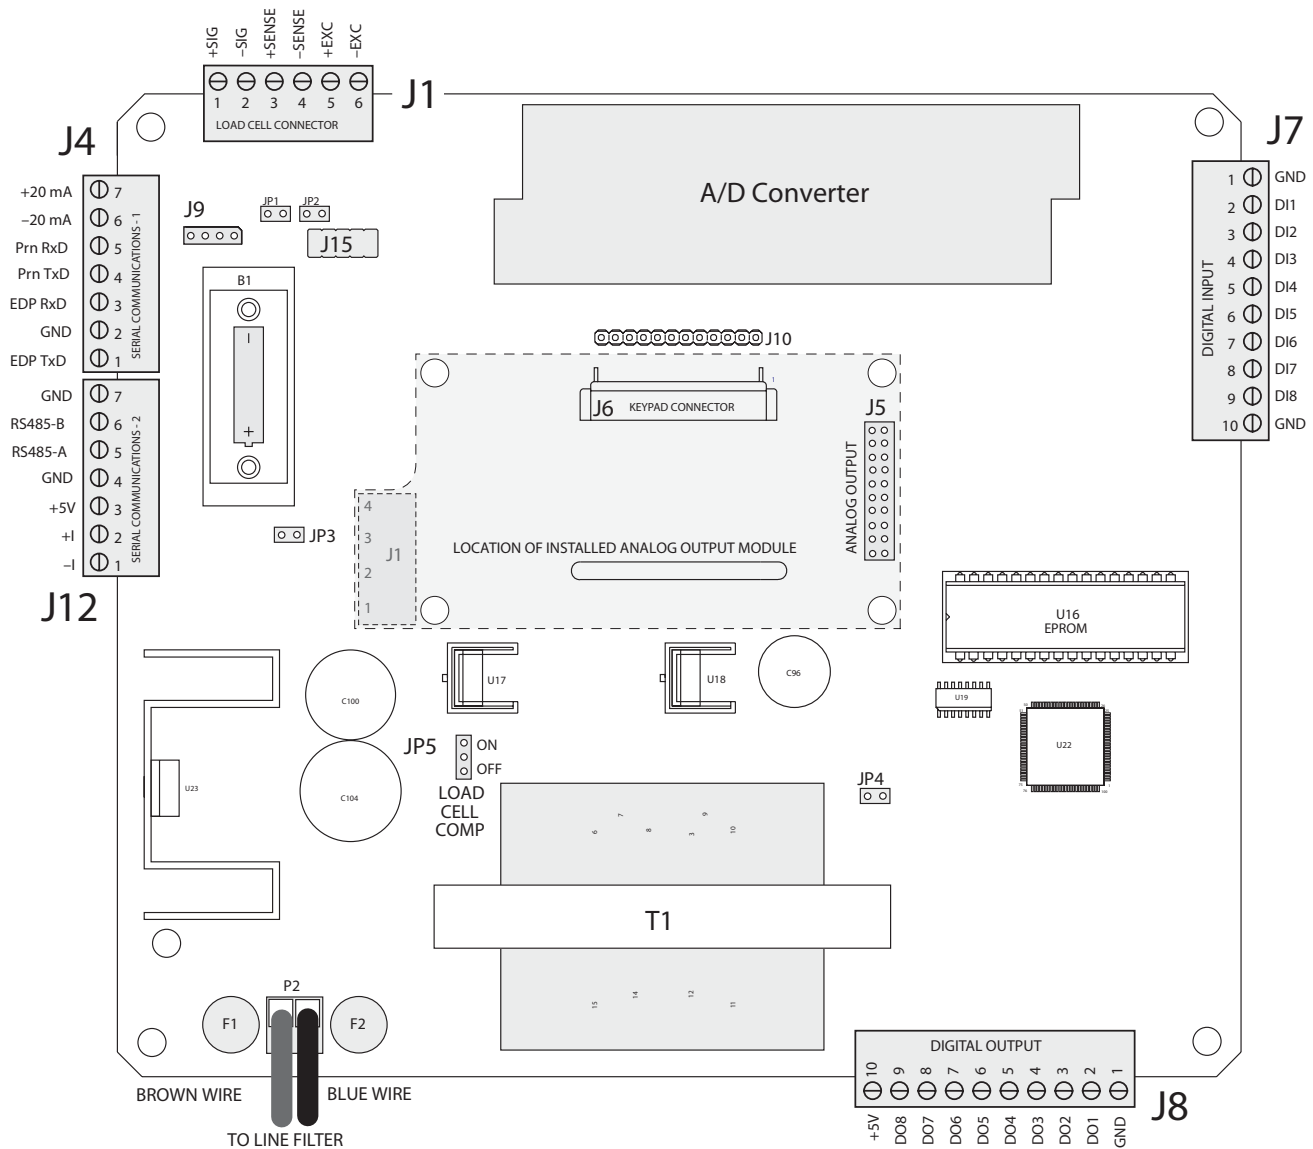

Figure 2-4. IQ plus 710 CPU and Power Supply Board, Version 2.1
8. Next, remove connector J1 from the board. The connector plugs into a header on the board (see Figure 2-4). Wire the load cell cable from the load cell or junction box to connector J1 as shown in Table 2-1.
The load cell compensation jumper JP5 (near the transformer on the CPU board; see Figure 2-4) must be set ON for load cells with unbalanced bridges. The compensation jumper has the effect of lowering the positive excitation voltage. Uncompensated unbalanced load cells can cause instability or calibration errors.
Mount the analog output module on its standoffs in the location shown in Figure 2-4 on page 6 and plug the module input into connector J5 on the IQ plus 710 board. Connect the output cable to the analog output module as shown in Table 2-4, then reassemble the enclosure (Section 2.5).
2. Unplug connectors J1 (load cell cable), J4 and J12 (serial communications), J7 and J8 (digital I/O), J6 (keypad ribbon cable), and JP4 (setup switch). If an analog output board is installed, disconnect the analog output cable. See Figure 2-4 on page 6 for connector locations.